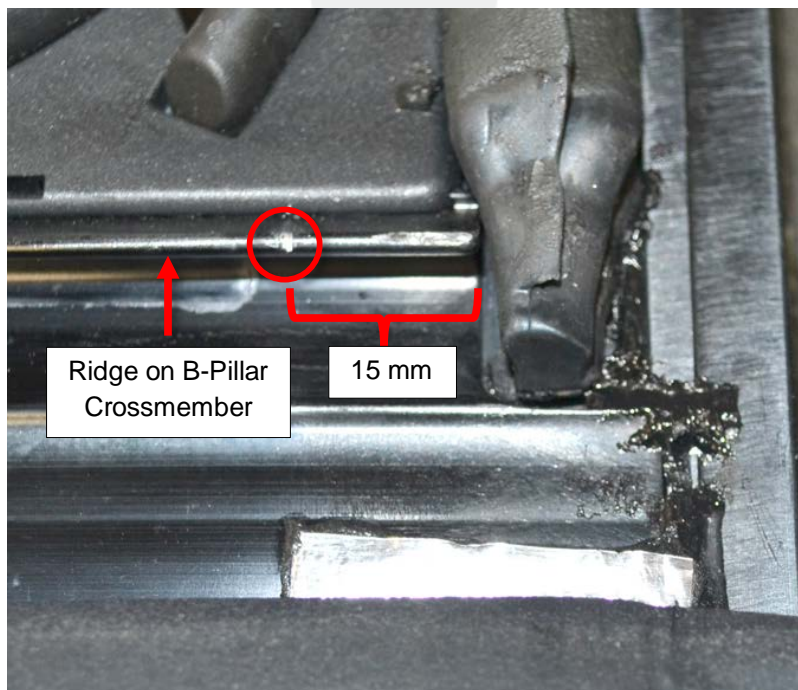

Figure 17
1. On the ridge at the front of the B-Pillar crossmember, draw a mark 15 mm inward from the edge (Figure 17).